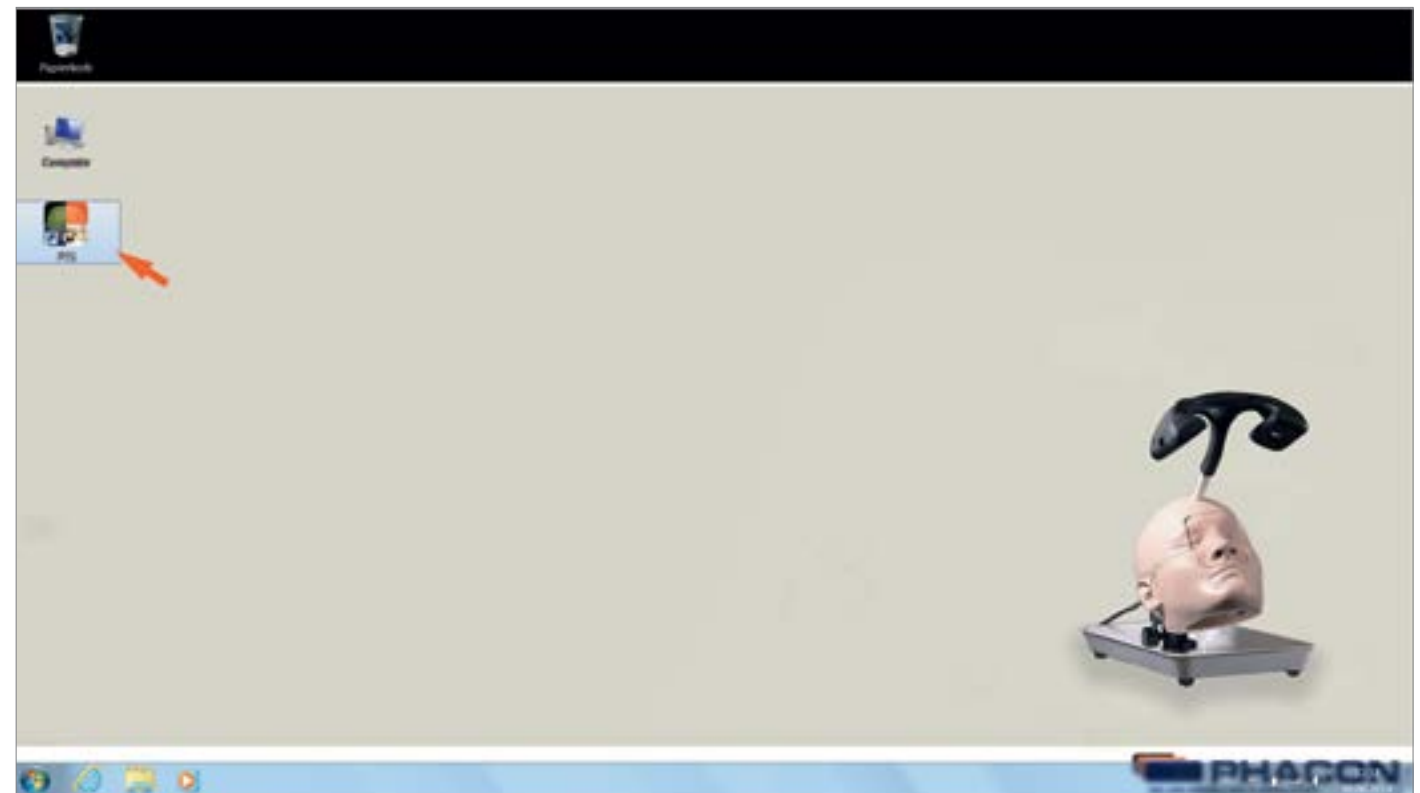

Fig.: 2
1. Double click on the „PHACON Trainer“ icon located on the laptop computer desktop to log into the training program (Fig. 2).